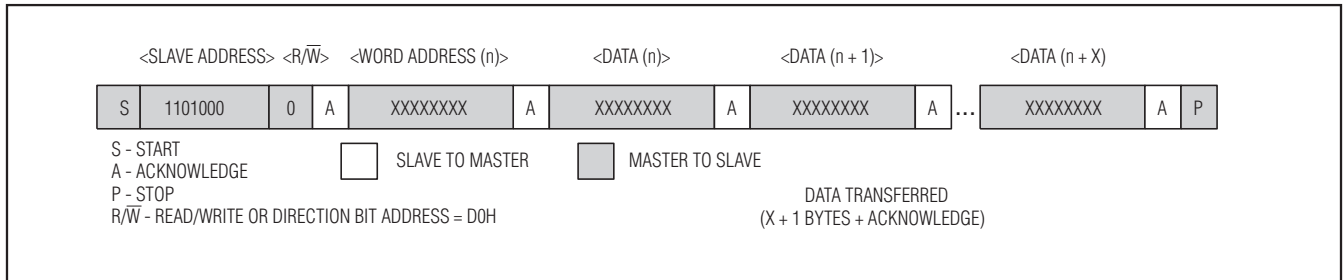

Figure 3. Data Write—RTC Slave Receiver Mode
1) Slave receiver mode (DS32x35 write mode): Serial data and clock are received through SDA and SCL. After each byte is received an acknowledge bit is transmitted. START and STOP conditions are recognized as the beginning and end of a serial transfer. Address recognition is performed by hardware after reception of the slave address and direction bit (see Figures 3, 5, and 7). The slave address byte is the first byte received after the master generates the START condition. The slave address byte contains one of the 7-bit DS32x35 addresses. The slave address is 1101000 for the RTC. For the DS32B35 FRAM, the first four bits are 1010, and the next three bits select one of eight blocks of data (see Table 2). For the DS32C35 FRAM, the first seven bits are 1010000. Each slave address is followed by the direction bit ($\overline{R/W}$), which is zero for a write. After receiving and decoding the slave address byte, the device outputs an acknowledge on the SDA line. After the device acknowledges the slave address and write bit, the master transmits a register address to the device. For the DS32C35, the master transmits two bytes for the register address information. This sets the register pointer on the device. After setting the register address, the master then transmits zero or more bytes of data with the DS32x35 acknowledging each byte received. The master generates a STOP condition to terminate the data write.